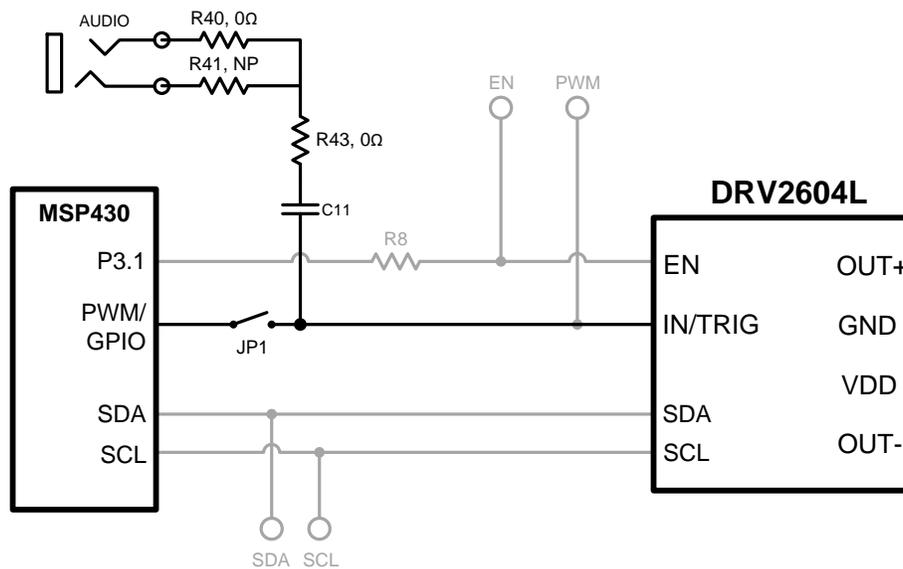

Figure 23. Analog Input
1. Apply an analog signal (not PWM) to the AUDIO jack on the left side of the board. The tip of the inserted male 3.5 mm jack is applied to the IN/TRIG pin of the DRV2604L. See Figure 23.